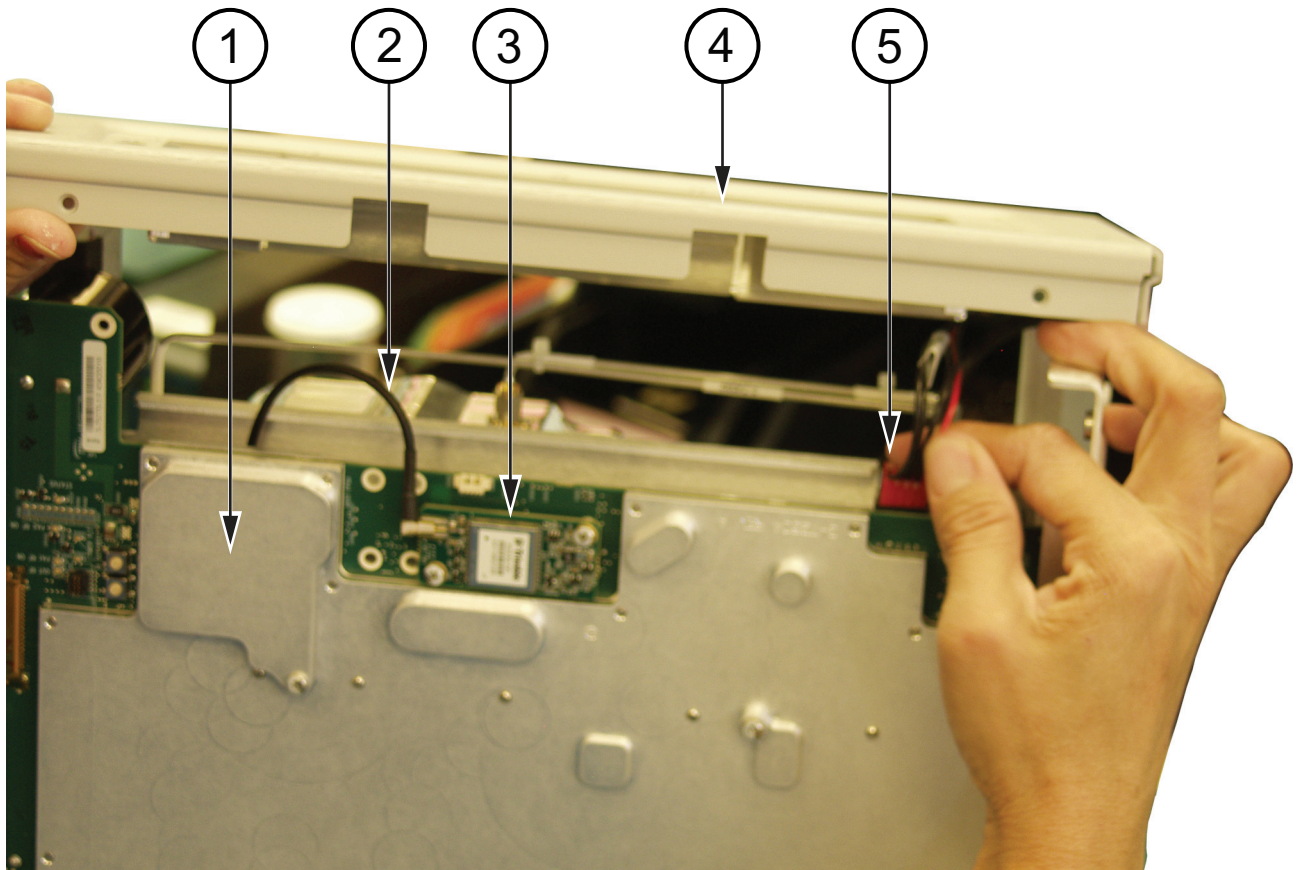

Figure 5-33. Battery Cable Connection to Motherboard
- While removing the case bottom (item 4 in Figure 5-33), unplug the battery connector (item 5) from the motherboard (item 1). To replace or install Option 31, refer to “Replacing the GPS Module” on page 5-39.